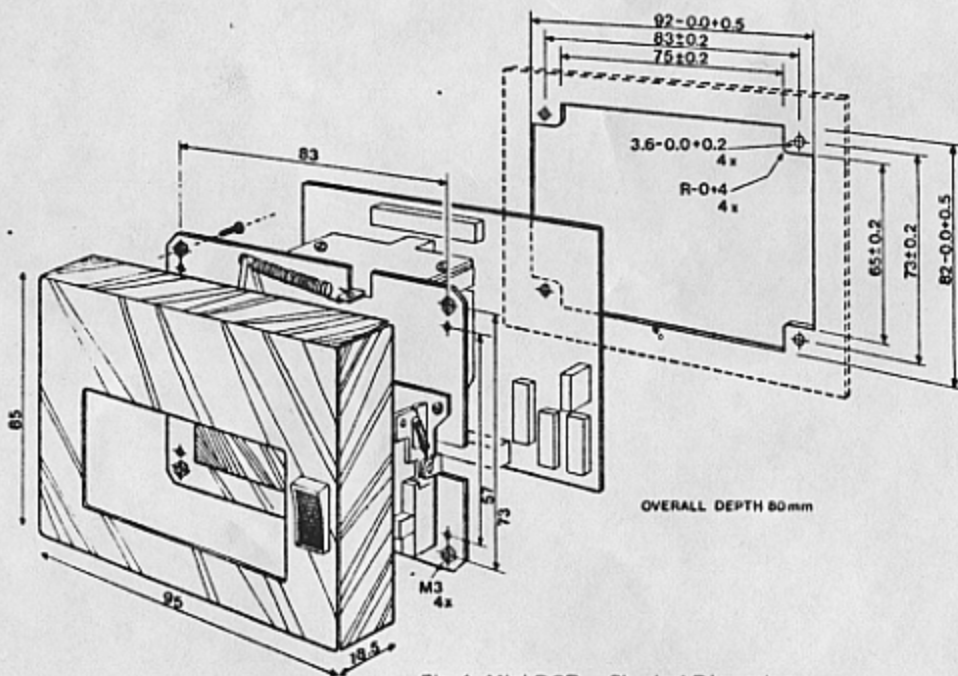

Fig. 1. Mini-DCR – Physical Dimensions.
- Fig. 1. Mini-DCR – Physical Dimensions
Physical dimensions	: see fig. 1
8920 405 10301	: MCR 210 with front cover (see fig. 1)
8920 405 10401	: MCR 220 with front cover (see fig. 1)